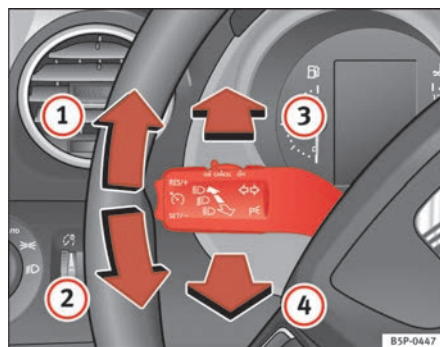

Fig. 77 Indicator and main beam lever
- Move the lever all the way up \Rightarrow page 116, fig. 77 ① to indicate **right**, and all the way down ② to indicate **left**.
- Press the lever forward \Rightarrow page 116, fig. 77 ③ to switch on the main beams.